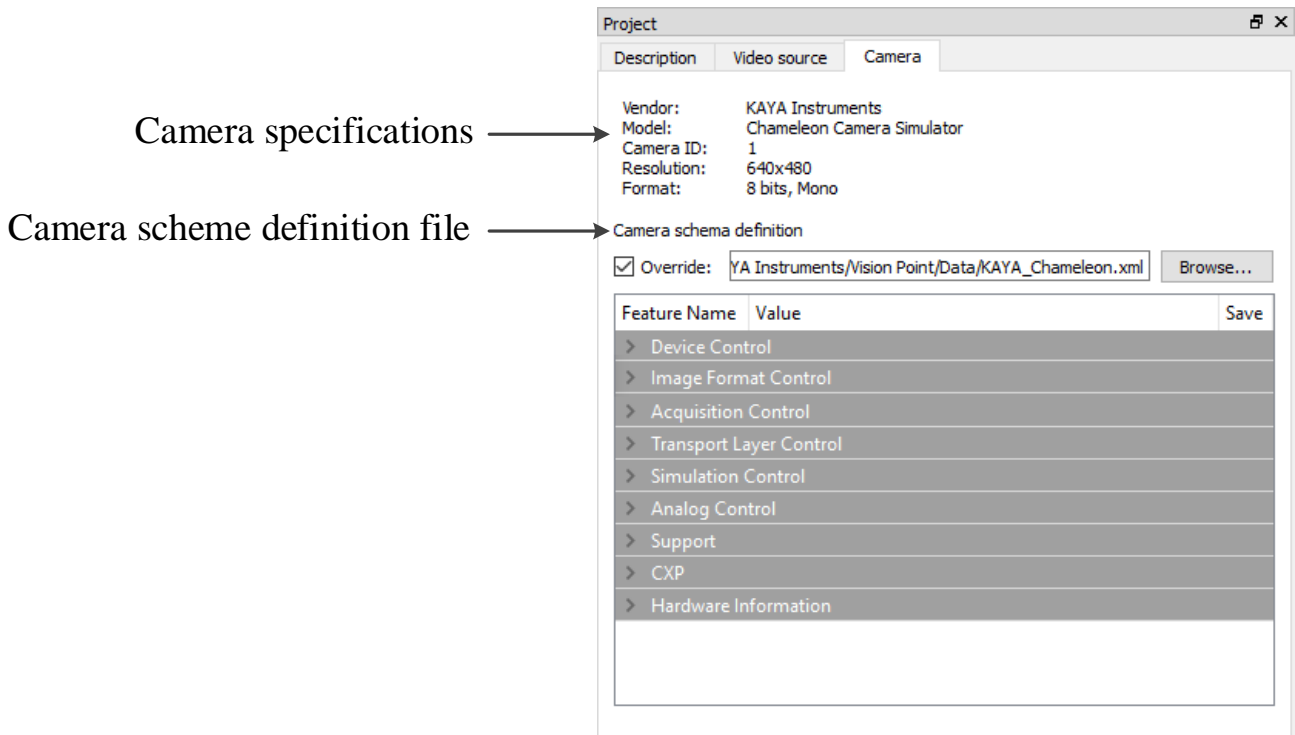

Figure 25 : New project camera parameters
5. Switch to “Camera” tab and specify the custom GenCam XML file in Camera scheme definition. Choose Override option and Browse the desirable XML as shown in Figure 25. The later will hold all the camera parameters values.